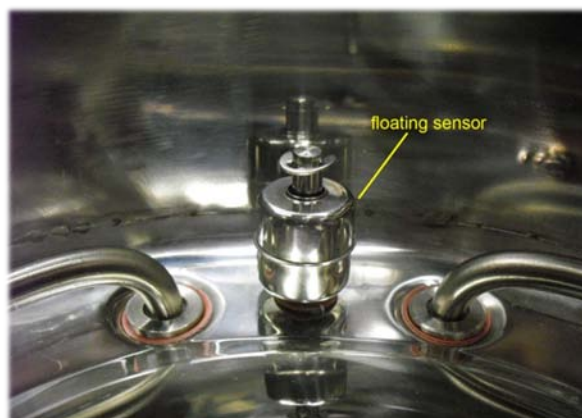

Figure 2
1. Ensure that there is sufficient water in the chamber. The heater should be completely submerged and the floating sensor (See Figure 2) should rise.
1. Remove the sterilizer's cover and locate the floating sensor in the chamber (See Figure 2).